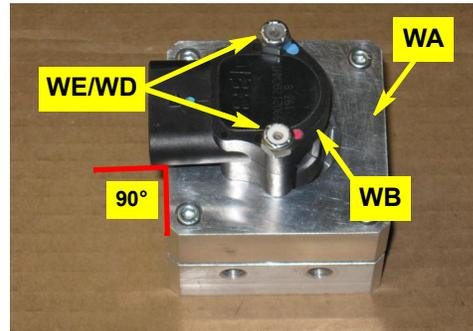

Figure 1a: Prepared WAS housing/connector
- a. Using hardware **WE** (nuts) and **WD** (bolts - not visible), attach the WAS wire connector **WB** to the WAS housing **WA**. Install the bolts up through the bottom of the housing. Wire connector **WB** can be mounted 90° to any of **WA**'s sides (Figure 1a).